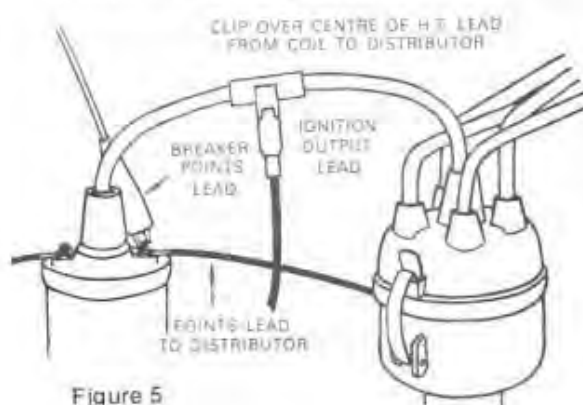

Figure 5
7. Attach the **IGN. OUTPUT** lead clip around the H.T. lead fitted between the coil and the distributor. Refer Fig. 5.